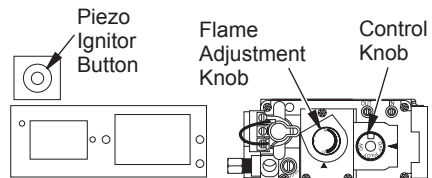

Figure 39 - Control Knob and Ignitor Button Location (Shown as Supplied, No Control Options)
3. Press in and turn control knob clockwise  to the OFF position (see Figure 39).
4. Wait five (5) minutes to clear out any gas. Then smell for gas, including near the floor. If you smell gas, **STOP!** Follow "B" in the safety information, column 1. If you don't smell gas, go to the next step.
5. Press in and turn control knob counter-clockwise  to the PILOT position. Press in control knob for five (5) seconds (see Figure 39).